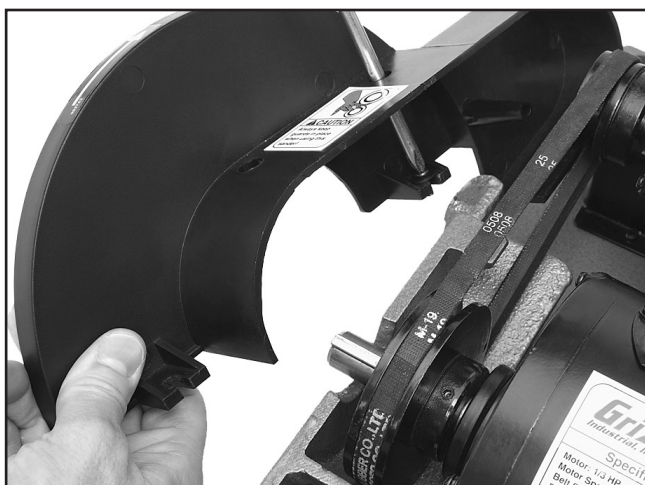

Figure 11. Holding V-belt cover mounting fastener in place.
6. Insert one M4-.7 x 10 Phillips head screw and flat washer into the left inside mounting bracket of the V-belt safety cover (see **Figure 11**). Then hold it in place with a screwdriver as you slide the cover over the V-belt and tighten the fastener into the cast iron disc guard.